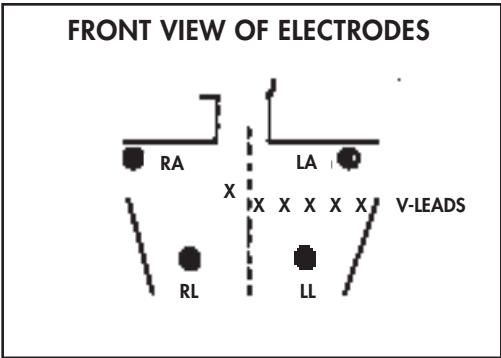

Figure 5.1: ECG Electrode Placement 5-lead
- Place the five leads on bony prominences as illustrated in Figure 5.1.